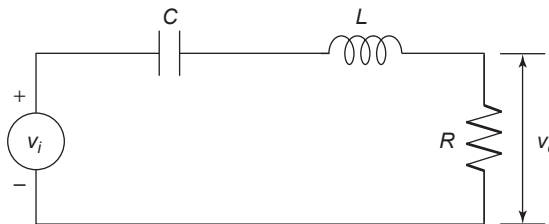

Figure P28
28. The  $RLC$  circuit shown in Figure P28 can be used as a *narrowband filter*. If the input voltage  $v_i(t)$  consists of a sum of sinusoidally varying voltages with different frequencies, the narrowband filter will allow to pass only those voltages whose frequencies lie within a narrow range. The magnification ratio  $M$  of a circuit is the ratio of the amplitude of the output voltage  $v_o(t)$  to the amplitude of the input voltage  $v_i(t)$ . It is a function of the radian frequency  $\omega$  of the input voltage. Formulas for  $M$  are derived in elementary electrical circuits courses. For this particular circuit,  $M$  is given by
47. The  $RLC$  circuit described in Problem 28 and shown in Figure P28 has the following differential equation model: